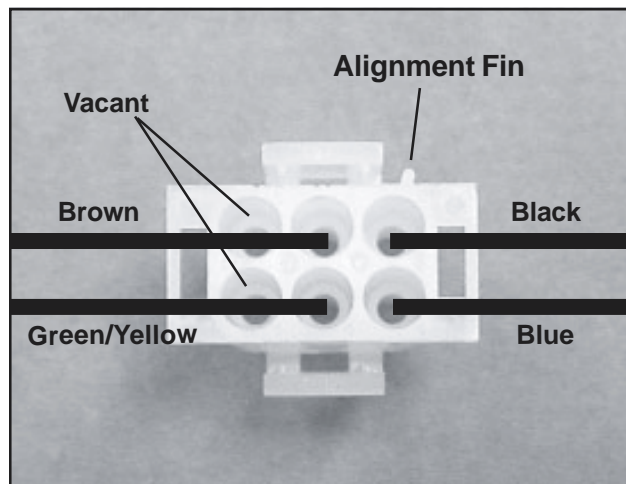

Figure 116. Wire Connections in Power Cord Plug Connector
4. Insert the wires from the 4-conductor cable into the large end of the white plastic plug connector supplied with the impeller. Seat the pins in the connector as shown in Figure 116, with the alignment fin on the upper right. **Note:** Push the wire tips into the connector until they snap into place.